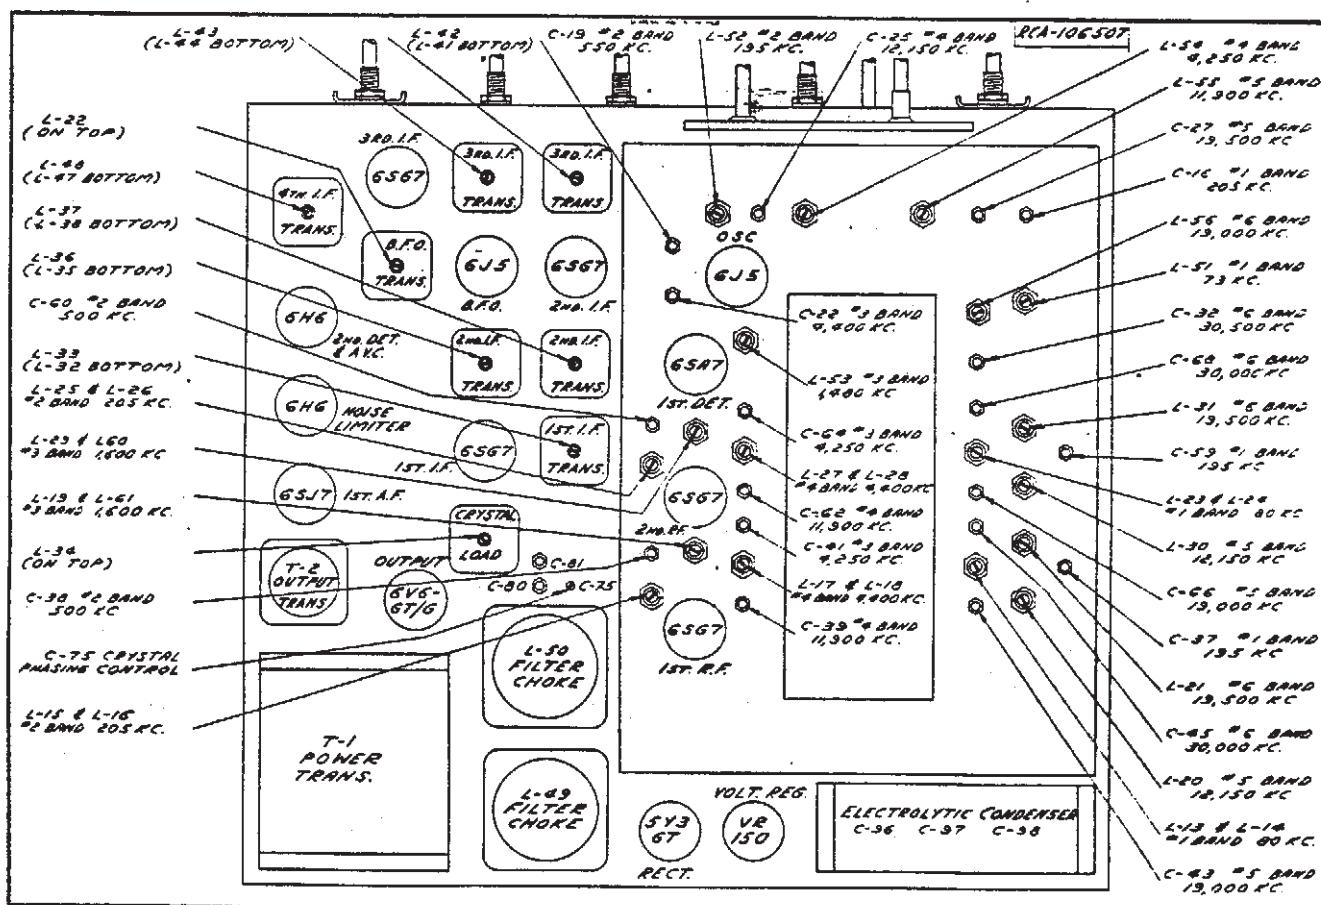

Figure 4.—General Purpose Communications Receiver—Alignment Layout.
| Steps | Generator Connections | Slug Adjustments (See Fig. 4) |
**6.4-8 Adjustment of Beat Frequency Oscillator:**—Tune in a signal either R-F or I-F to exact resonance with Power-Transmit-Receive Switch at "Rec. Mod" (Fig. 1.). Turn on beat frequency oscillator by turning switch to "Rec. CW". If zero beat does not fall within the range of the BFO control, adjust BFO Trimmer L-22 (see Fig. 4) until zero beat occurs at the mid-point setting of the BFO control.